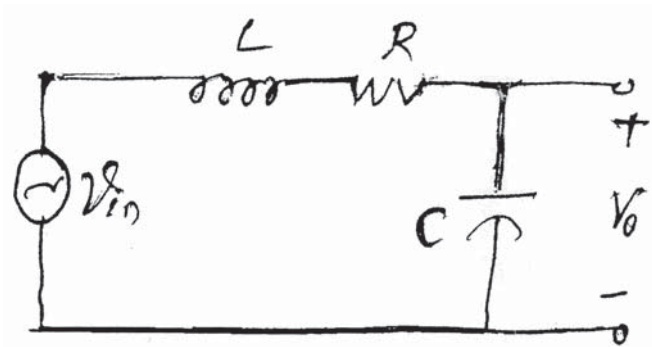

Fig. 9
b) For the series R-L-C circuit shown in Fig. 9, calculate the sensitivity of the resonant frequency ( $\omega_0$ ), the quality factor ( $Q_0$ ) with respect to R, L and C.